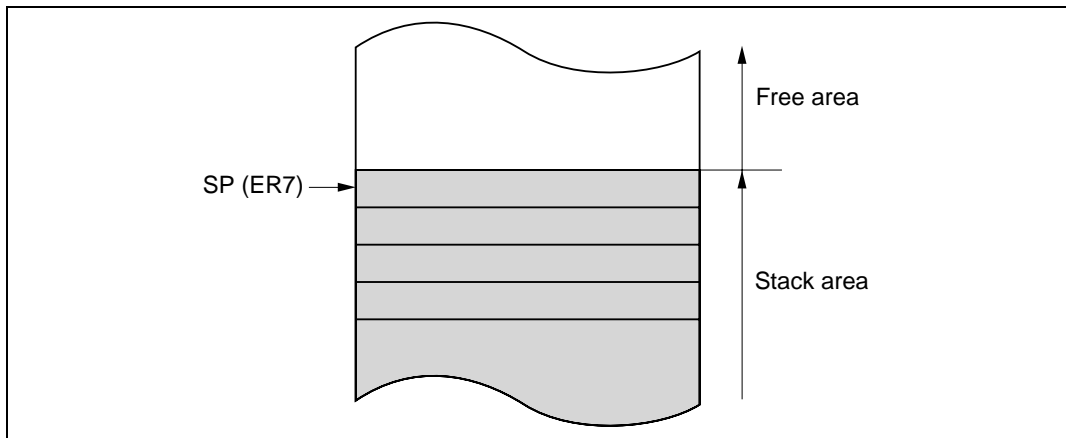

Figure 1.9 Stack
General register ER7 has the function of stack pointer (SP) in addition to its general-register function, and is used implicitly in exception handling and subroutine calls. Figure 1.9 shows the stack.